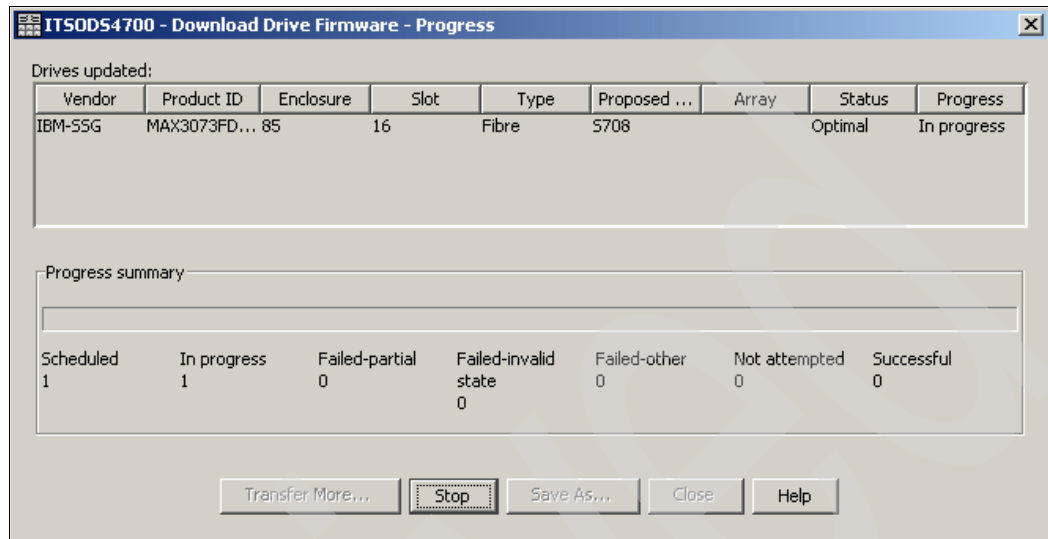

Figure 7-28 Drive firmware update: Download progress window
8. Once the drive firmware download procedure starts, you can monitor the progress, as shown in Figure 7-28. This gives you information about the current status of the download. After the process is finished, you can also see whether all drives were successfully updated.